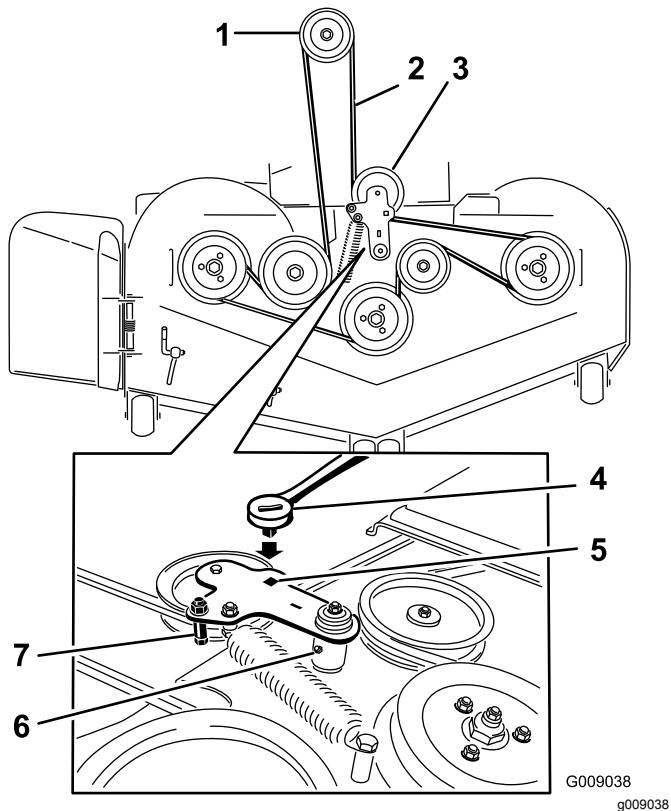

Figure 106
5. Lift up the floor pan and insert a ratchet into the square hole in the deck idler (Figure 106).
6. Rotate the deck idler clockwise and remove the mower belt (Figure 106).